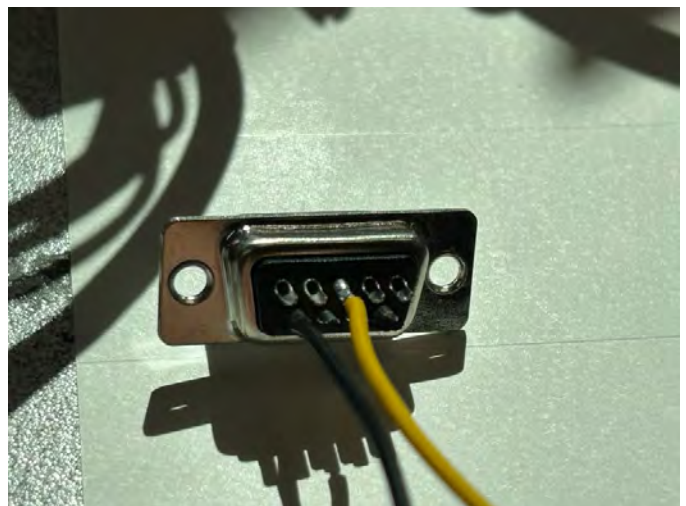

FIGURE 28
- D. For our Tool Setter (P/N 8702), use the black wire and the yellow wire to connect to the tool setter wires (see Figure 28).